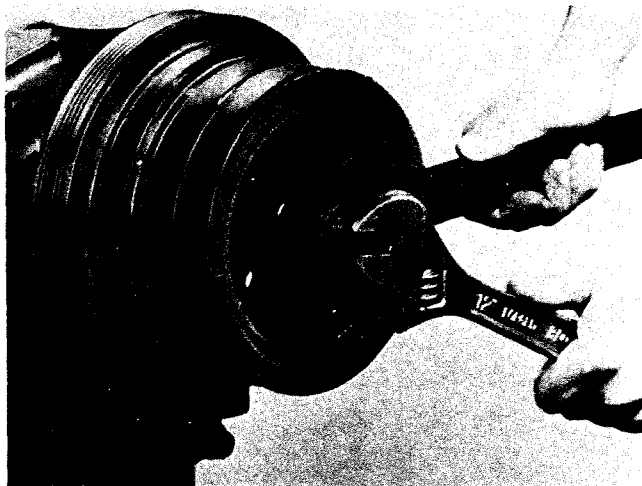

Fig. 14-36, (N114270). Installing accessory drive pulley
1. Install oil slinger over accessory drive shaft with key and key seal, if used, on accessory drive shaft. Lubricate shaft with clean lubricating oil, start accessory drive pulley over shaft and key; use ST-386 to position pulley on shaft. Fig. 14-36.